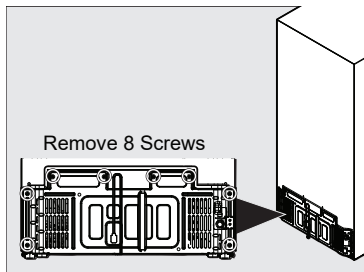

Figure 10
13. Remove 8 screws from access cover located at the bottom rear outside of the unit. Set aside. See Figure 10.